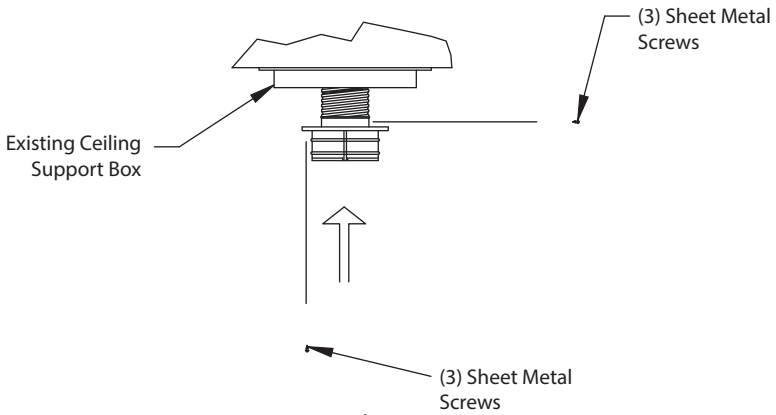

Figure 5
Step 5. Pull the flex pipe down through the ceiling support box, until it protrudes approximately 3 inches. Connect the flex pipe to the Retro Connector by slipping it into the 4-3/4-inch diameter sleeve on the top side of the Connector. Use (3) Sheet Metal Screws, to assemble these two parts.
Step 6. Push the flex pipe back up into the ceiling support box, center the Retro Connector, and attach it to the support box, or decorative sleeve for double wall solid packed pipe, with the Sheet Metal Screws furnished. The holes in the Retro Connector are pre-punched. **(Figure 5.)**